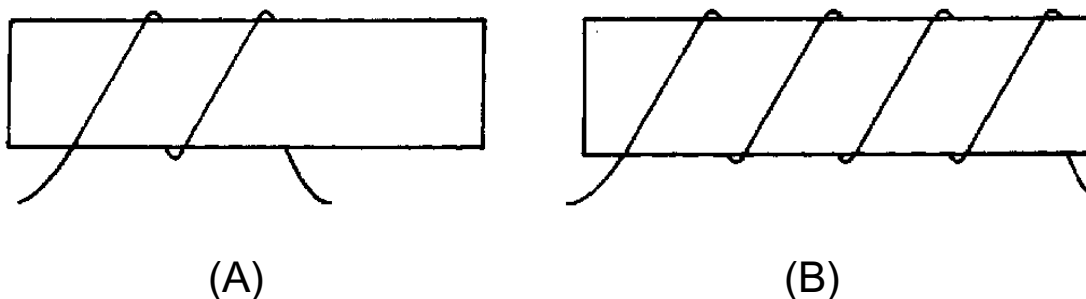

Figure 2-5.—Inductance factor (turns).
Inductance depends entirely upon the physical construction of the circuit, and can only be measured with special laboratory instruments. Of the factors mentioned, consider first how the number of turns affects the inductance of a coil. Figure 2-5 shows two coils. Coil (A) has two turns and coil (B) has four turns. In coil (A), the flux field set up by one loop cuts one other loop. In coil (B), the flux field set up by one loop cuts three other loops. Doubling the number of turns in the coil will produce a field twice as strong, if the same current is used. A field twice as strong, cutting twice the number of turns, will induce four times the voltage. Therefore, it can be said that the inductance varies as the square of the number of turns.